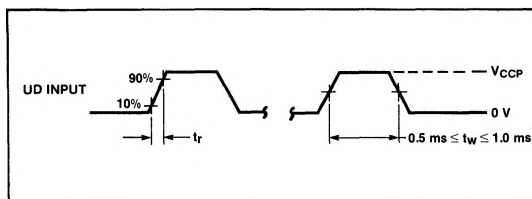

Figure 3. Protect Programming Pulse
Step 2: Taking one pin at a time, apply a protect programming pulse (Figure 3) to each user-bus bit (UD0-UD7). Refer to Table 3 for min/max specifications pertaining to voltage and current.